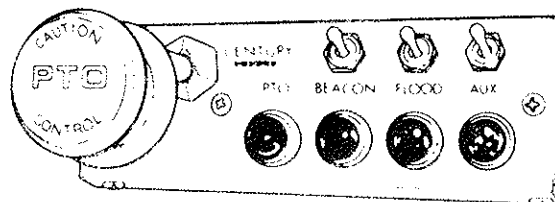

FIG. 2.6
2.9 The CENTURY switch panel controls the flashing beacon bar, flood lights, and hook-up lights. Also mounted in the switch panel is the P.T.O. control knob and indicator lights for each function. (FIG. 2.6)